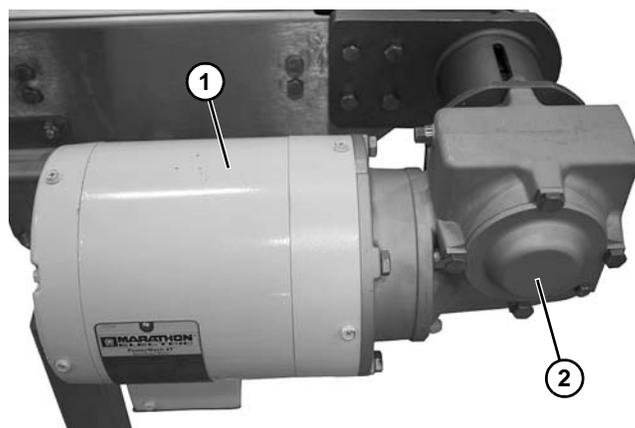

Figure 24
1. Attach the motor (**Figure 24, item 1**) to the gear reducer (**Figure 24, item 2**).